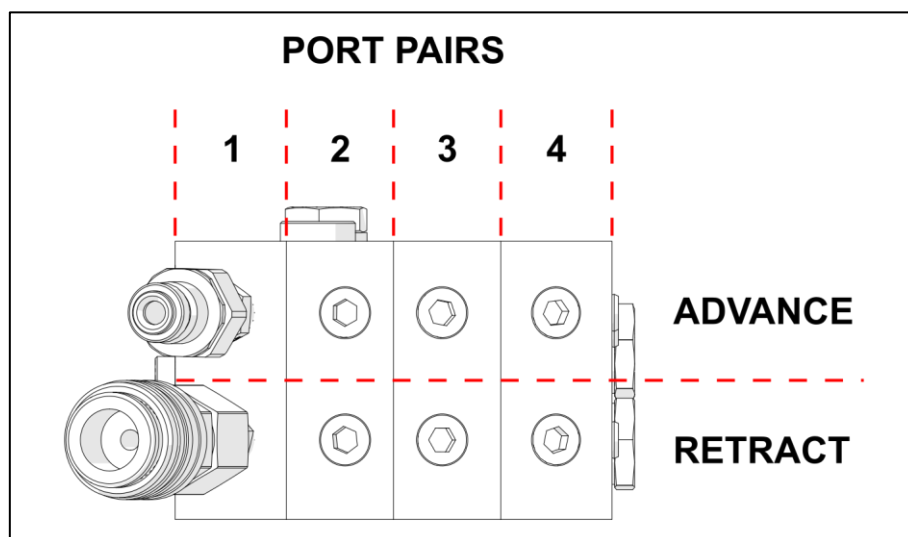

Figure 5.5: Split Block Port Pairs
- Remove the relevant blanking plugs from the outlet split-block (6) and fit the required number of extra coupler pairs. **ALWAYS** fit the male coupler to the top port and the female coupler to the bottom port to ensure correct torque wrench connection. (See figure 5.5)